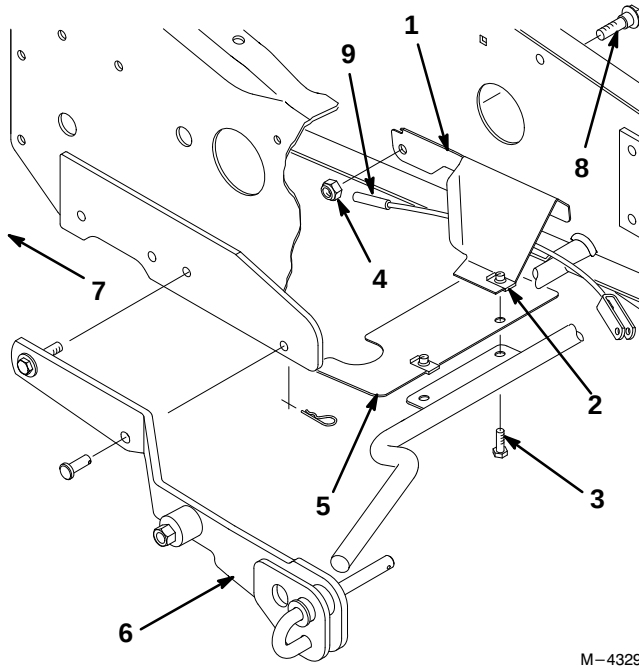

Figure 3
1. Remove the two bolts in the plastic fan baffle (Fig. 3) and remove the baffle.
2. Remove the clip nut from the left side of the plastic fan baffle and install over the hole in the bent tab of the cable guide (Fig. 3).
3. Remove the nut from the pivot bolt on the left hand attachment lift arm (Fig. 3). Leave the bolt in place.
4. Install the rear hole of the cable guide to the left hand lift arm pivot bolt and replace the nut loosely (Fig. 3).
5. Reinstall the plastic fan baffle with one of the previously removed bolts in the right hand side only (Fig. 3). Leave the bolt loose.